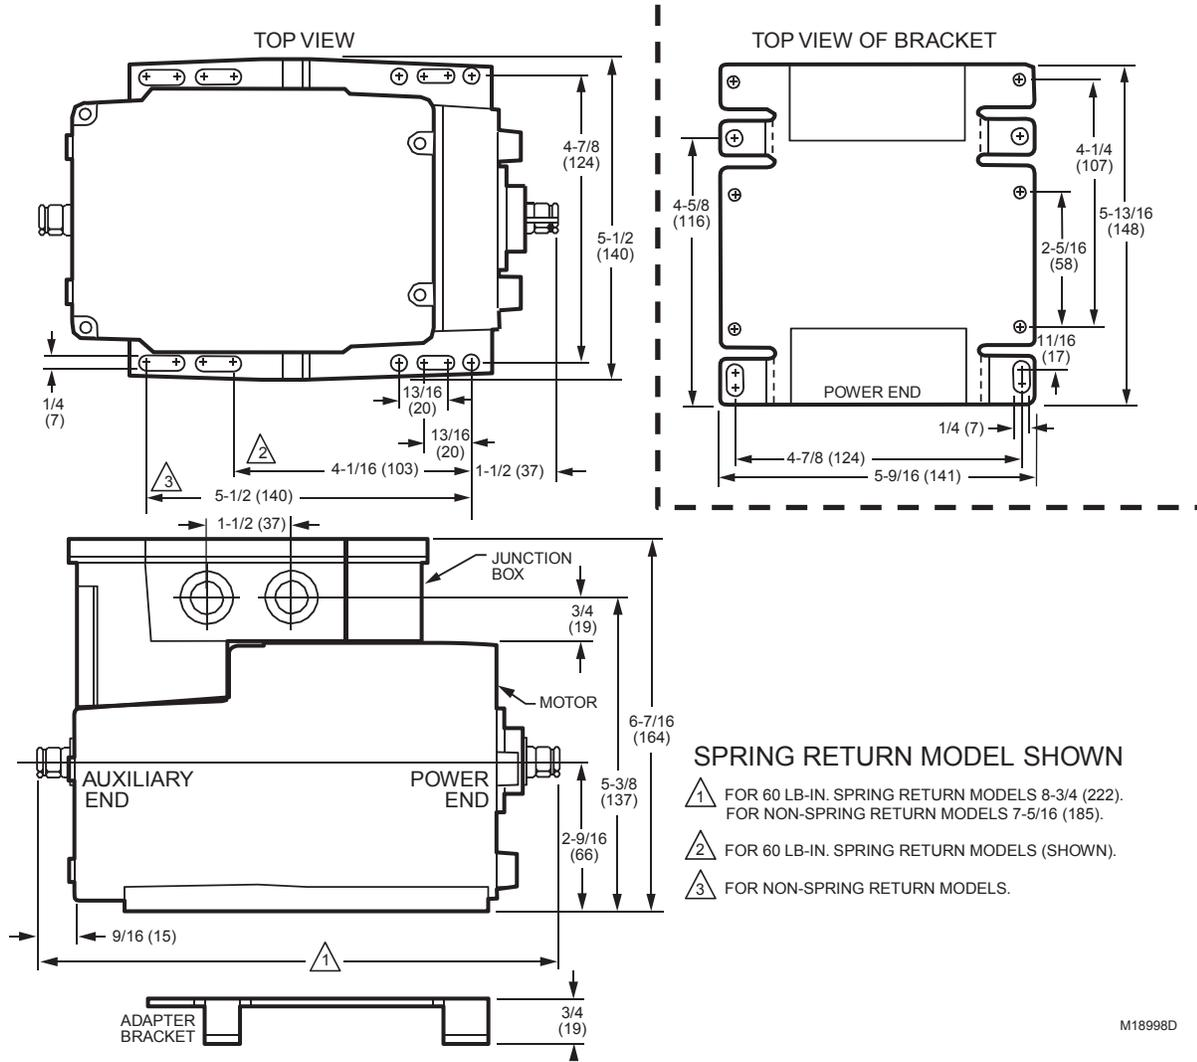

Fig. 2. Series 72 Modutrol IV Motor dimensions in inches (mm).
**Dimensions:** See Fig. 2.
Allow enough clearance for accessory installation and motor servicing when selecting a location (see Fig. 2). If located outdoors, use liquid-tight conduit connectors with the junction box to provide NEMA 3 weather protection. If mounted outdoors in a position other than upright, install a 4074ERU Weatherproofing Kit and liquid-tight connectors to provide NEMA 3 protection.